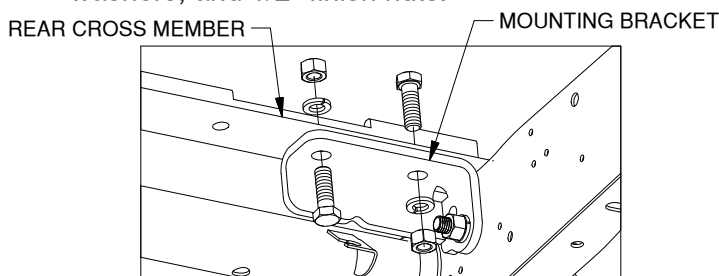

Figure C2: Looking at passenger side mounting bracket.
2. **Secure rear cross member.** Attach the rear cross member to the cross member brackets, as shown in Figure C2, with 1/2" x 1-1/2" cap screws, 1/2" lock washers, and 1/2" finish nuts.